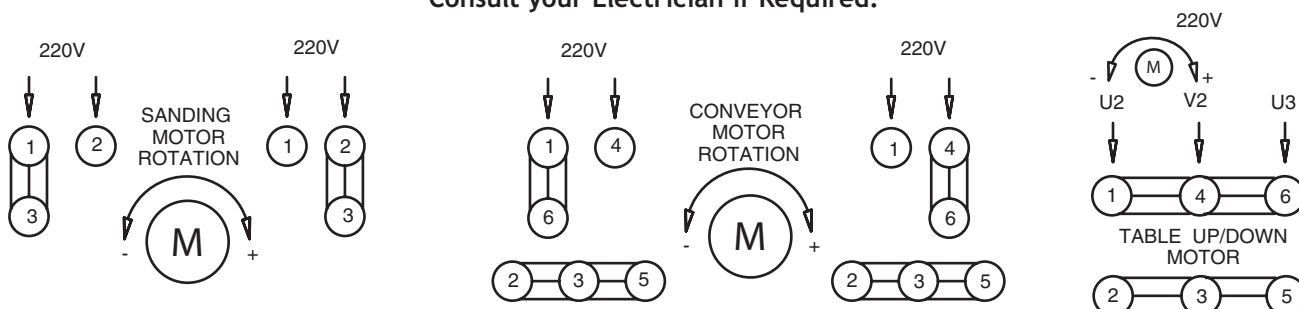

Figure 52. Gauge boards placed under pressure rollers.
5. Position each board on each side of the conveyor belt and directly below the front and back pressure rollers. See **Figure 52**.